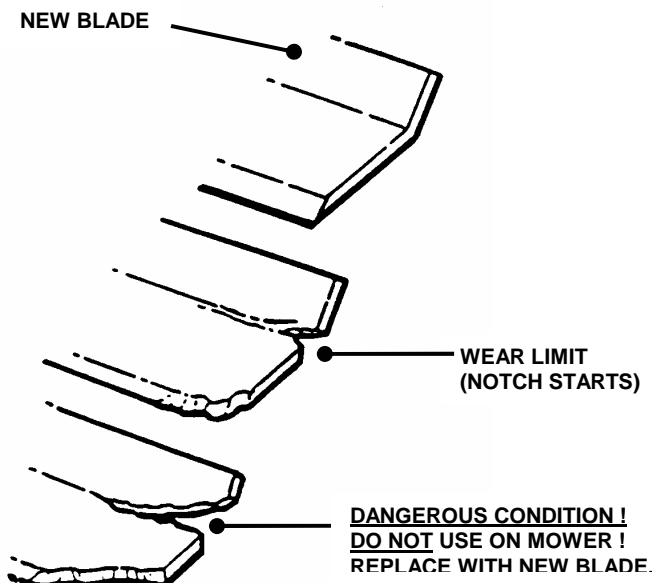

FIGURE 4.4
1. Inspect blade frequently for signs of excessive wear or damage. See Figure 4.4.
2. Inspect condition of blade. See Figure 4.4.